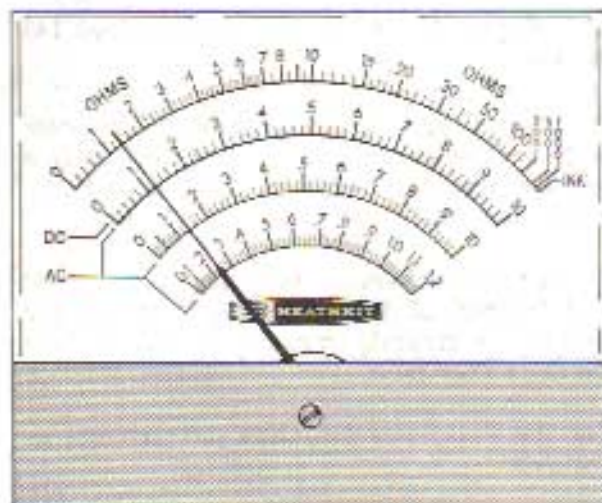

Figure 4
- (✓) Adjust the AC CAL control (on the circuit board) for a meter reading of 120 volts on the black scale (this is a reading of 1.2, or one scale division above the numeral 1, as shown in Figure 4). If the line voltage is known to be other than 120 volts, adjust for this value.